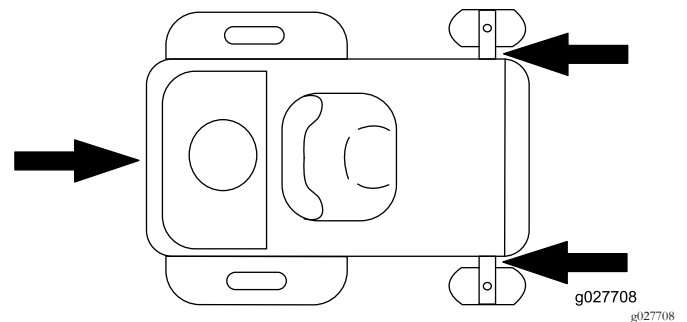

Figure 39
5. Tie down the machine near the front caster wheels and the rear bumper (Figure 39).